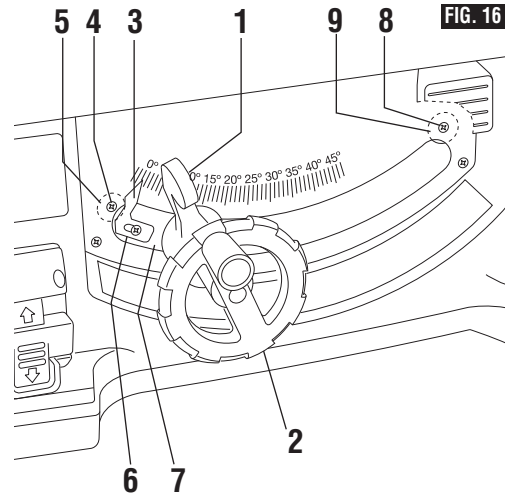

FIG. 16
1. Turn elevation wheel **2** clockwise and raise blade to maximum height (Fig. 16).
2. Loosen the blade tilt lock handle **1** and push the elevation wheel **2** to the left as far as possible and tighten the blade tilt lock handle **1** (Fig. 16).